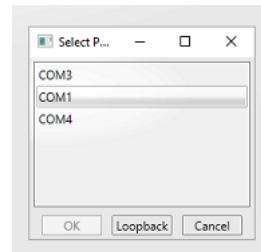

Figure 5.10: "Select Port" Dialog
- From the Home Screen (Figure 5.1), press the “Connect” button, displaying the “Select Port” dialog. See Figure 5.10.
Selecting “Loopback” in the ‘Select Port’ prompt (shown in Figure 5.10) allows access to the software screens of the ViscoSite software without connecting the PC to a